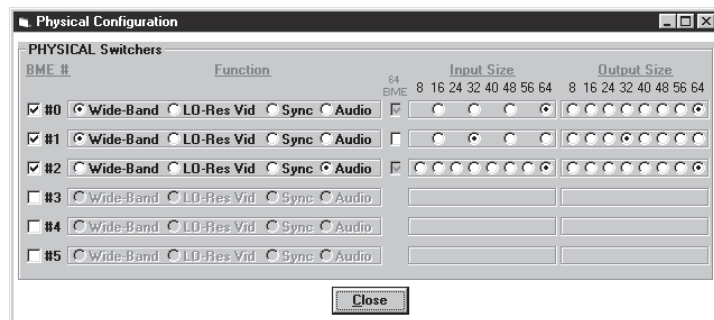

FIGURE 3-3.A
- From the menu, click **CONFIGURE | PHYSICAL SWITCHERS** to show the Physical Configuration screen (Figure 3-3.A). Examine this screen to ensure that all BMEs were seen and their type and size is being reported as expected. Click on the 'Close' button to return to the Virtual Map screen.